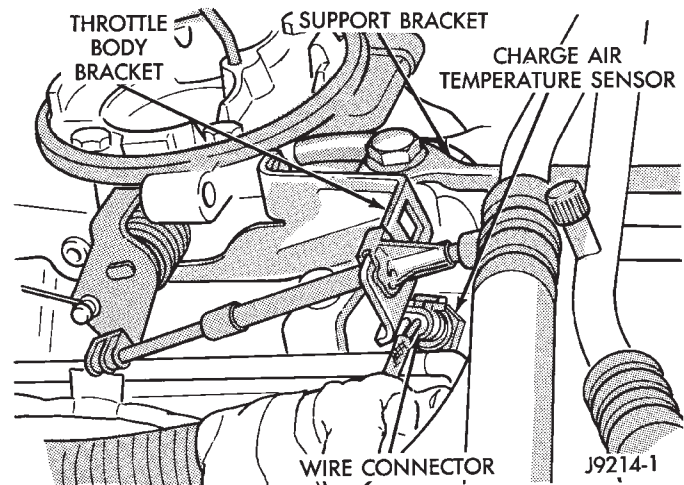

Fig. 15 Charge Air Temperature Sensor—Typical
(1) Disconnect the wire harness connector from the Charge Air Temperature sensor (Fig. 15).